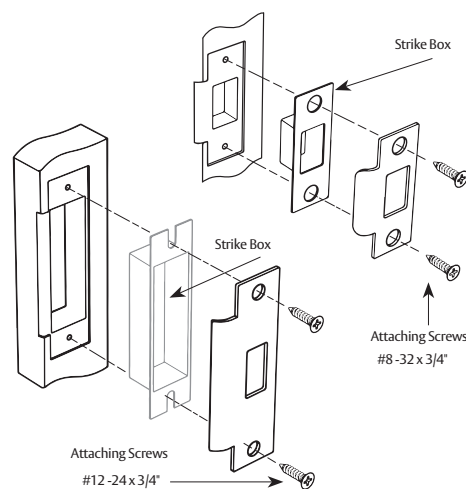

Figure 3
4. Install the strike (Figure 3)